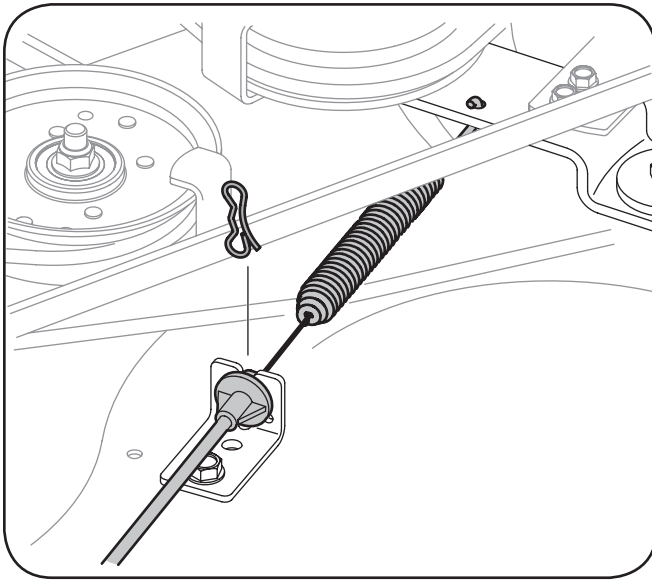

Figure 7-4
9. Carefully remove the PTO cable from the rear of the cutting deck by removing the bow-tie clip which secures it. Remove the spring from the deck idler bracket. See Figure 7-4.